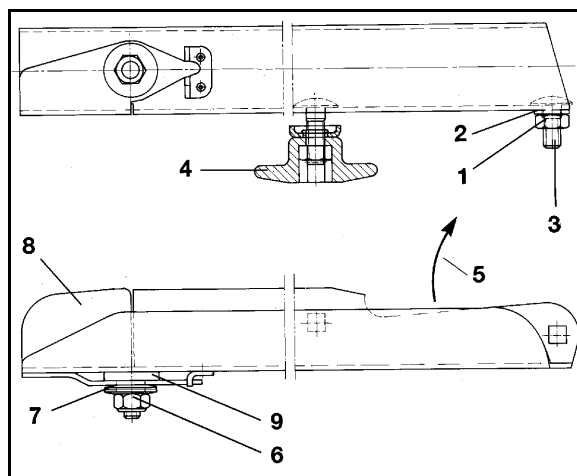

Fig. 79
1. Slacken self-locking nut (Fig. 79/1).
2. Remove washer (Fig. 79/2) and flat mushroom head bolt (Fig. 79/3).
3. Slacken thumb nut (Fig. 79/4) and exchange spreading vanes.
Tighten the self locking nut (Fig. 79/1) in such a way, that the spreading vane can be swivelled by hand.
Note the correct fitting of the spreading vanes. The open side of the U-shaped spreading vane shows into sense of rotation (Fig. 79/5).